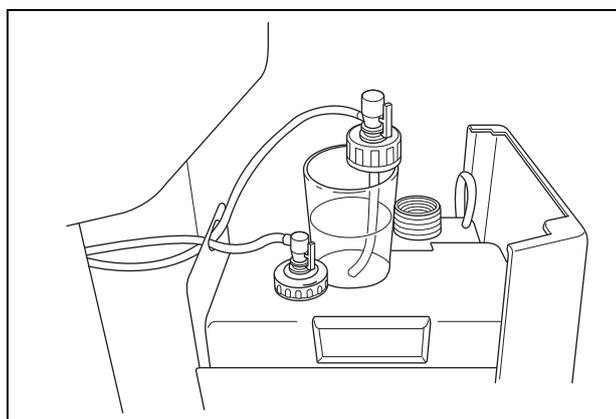

Figure 7.97
15. Put the cap in the container filled with the sterile water (see Figure 7.97).
17. Attach the cap to the alcohol tank and close the detergent/alcohol drawer (see Figure 7.97).